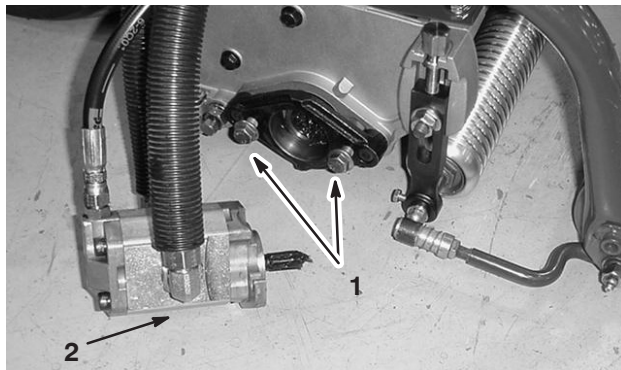

Figure 11
7. Assemble the mounting capscrews for the reel drive motor to each cutting unit. Leave approximately 1/2 in. (13 mm) of threads exposed on each mounting capscrew (Fig. 11).
11. Tighten the mounting capscrews (Fig. 11).